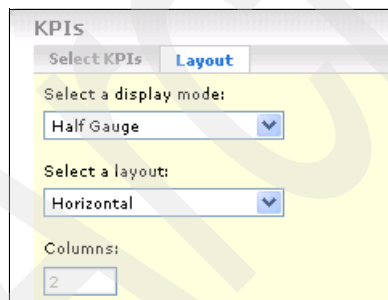

Figure 5-109 Configuring the layout of the KPIs view
- c. Switch to the **Layout** tab (Figure 5-109). For Select a display mode, select **Half Gauge**.